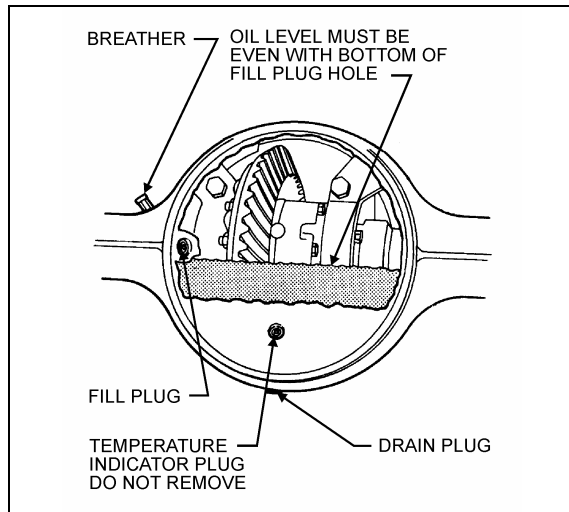

FIGURE 4: DIFFERENTIAL HOUSING BOWL 11007
Use Multigrade gear oil MIL-L-2105-D. Use the 75W90-gear oil for northern climates and the 80W140 for southern climates. In extreme conditions, or for better performance, fill with synthetic gear oil. Check oil level and add (if necessary) every 6,250 miles (10 000 km) or twice a year, whichever comes first (Fig. 4).
3. Clean the area around the fill plug. Remove the fill plug from the differential axle housing bowl (Fig. 4).